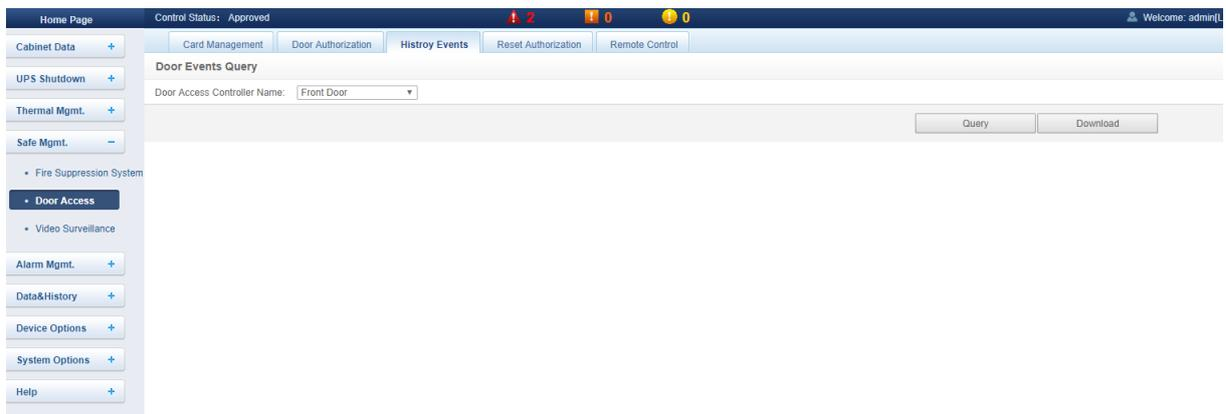

Figure 3-60 History Events
c) Click the **History Events** tab to enter the Door Events Query page and list the event log of the access control as shown in the Figure 3-60.